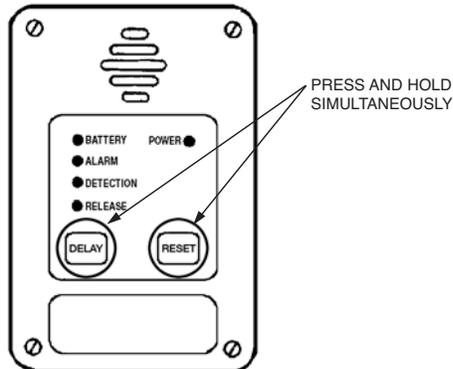

FIGURE 34b
4. Prior to installing the new battery, press and hold the DELAY and RESET buttons simultaneously, as shown in Figure 34b.